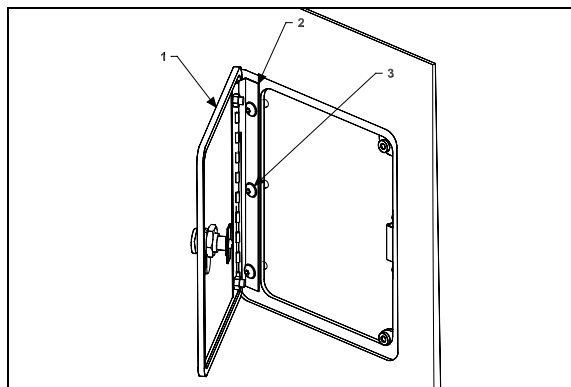

FIGURE 79: FUEL FILLER DOOR
1. Open the fuel filler door (1, Figure 79).
2. Loosen the screws (3, Figure 79) holding the panel to hinge (2, Figure 79) assembly.